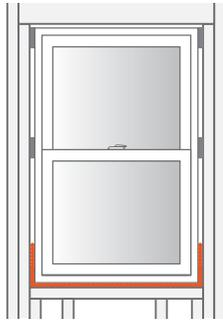

fig. 25 - Interior view
- a. Insulate around 3 sides of the frame. Top and 2 sides (low-expansion foam is recommended). Insulate the full cavity from the interior surface of the nail flange to the interior side of the frame. Completely seal the bottom of frame and at least 6" up each side with caulking that is compatible with the vinyl frame and framing material. (fig. 25)